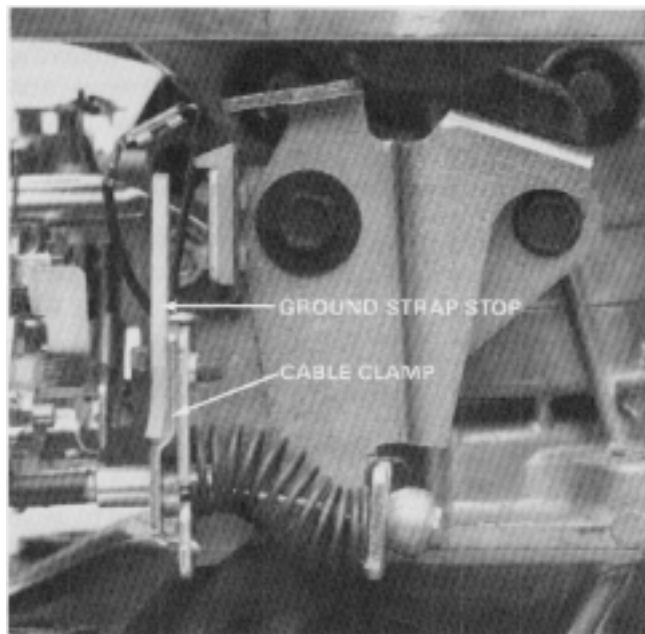

Figure 108
4. Slip the compression spring over the cable, then slip the lugged end of the cable into the slot in the brake plate. Slip the spring between the brake plate and mounting plate, then secure with the cable clamp and ground strap stop as shown in Figure 108.